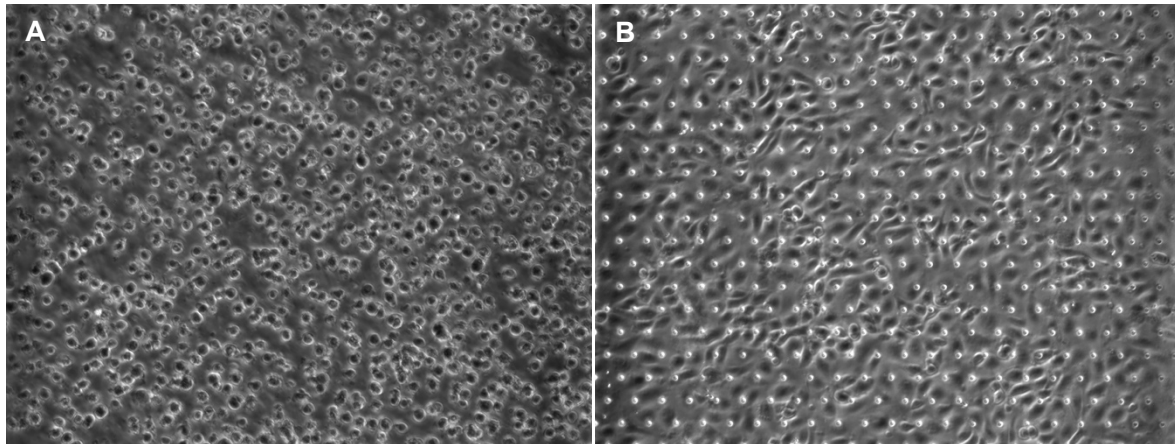

Figure 8.
7. If seeding density is not optimized (i.e. close to 8 M / mL) return the chip to the BSC and wash the channel with 200 µL of fresh medium twice (See Figure 8). Do not aspirate the medium from the channel. Adjust cell density accordingly, and repeat steps 3 through 5 until the correct density is achieved within the channel.